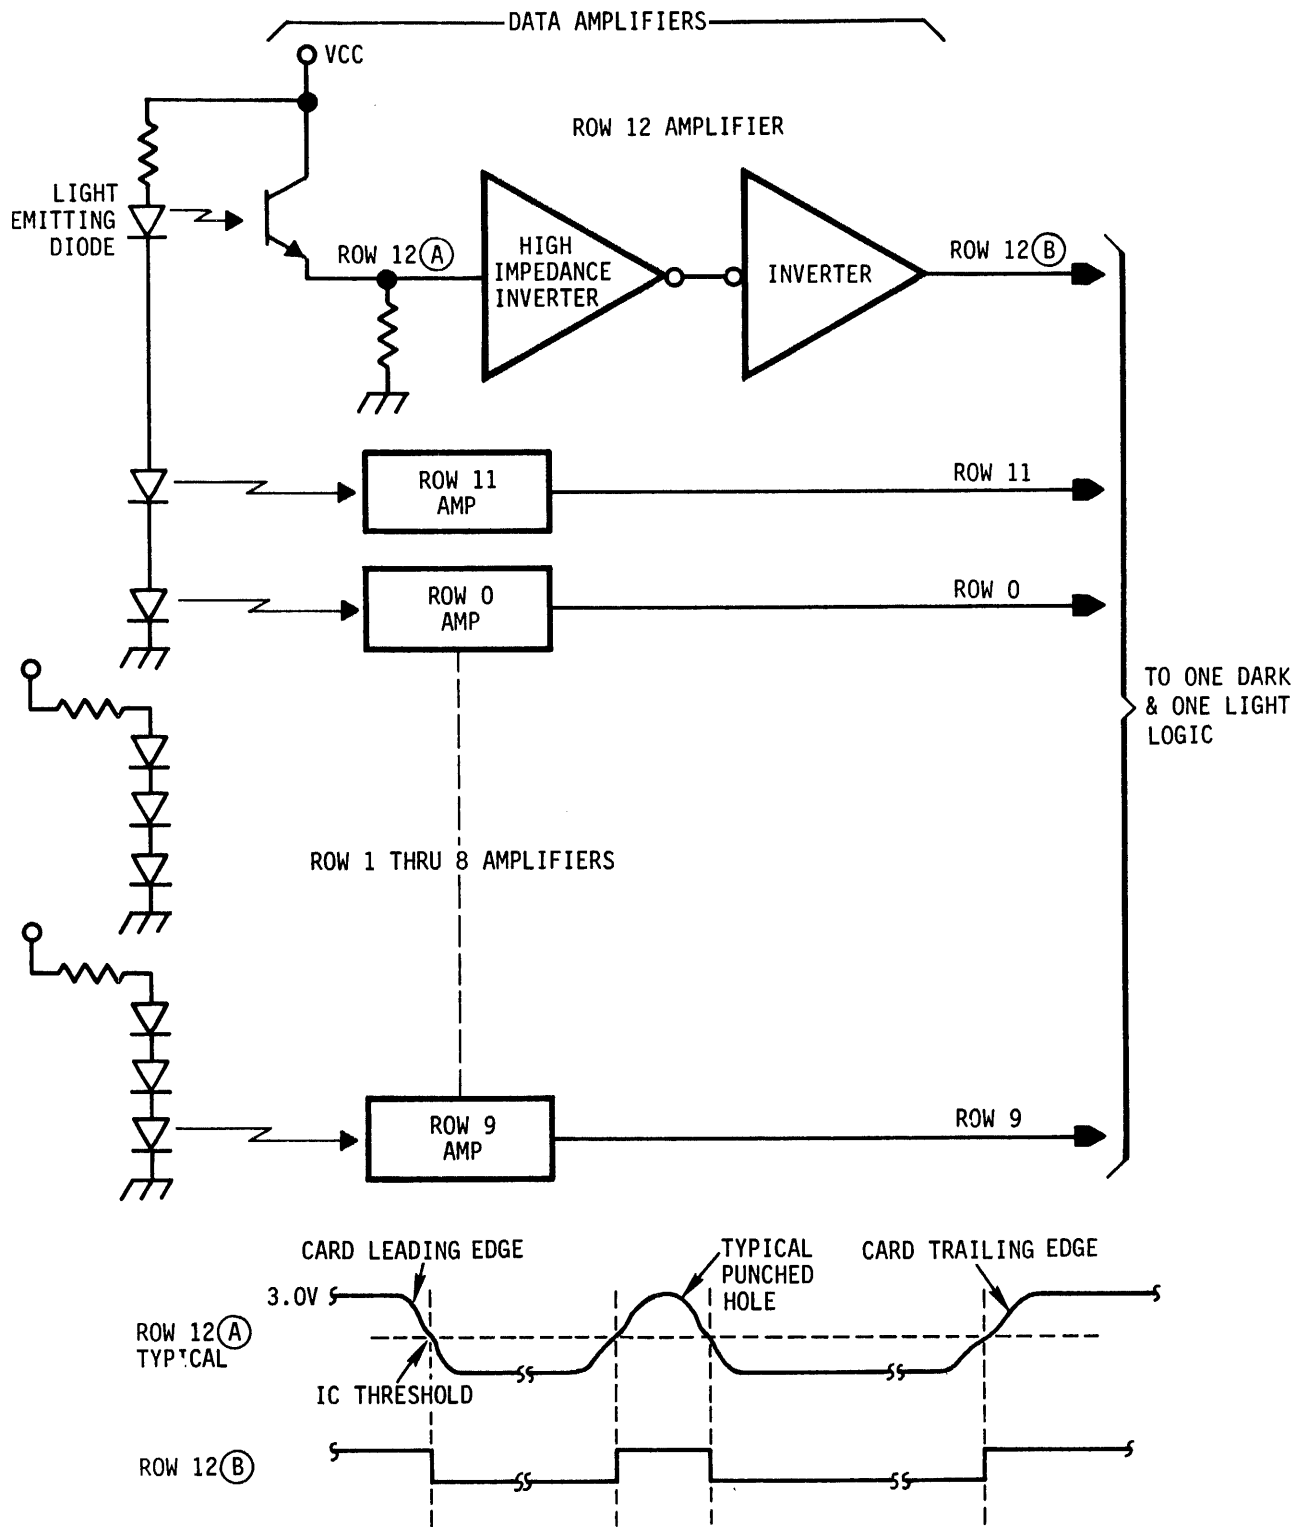

Figure 4-9. Block and Timing Diagram, Data Amplifiers and Inverters
The Light Station contains one infrared Light Emitting Diode (LED) and the Read Station one Phototransistor for each of the 12 punched card rows. Light emitted by the LEDs is allowed to pass to the Phototransistors by the presence of punched holes in the tab card. Figure 4-9 presents a block diagram and typical waveform for the Data Amplifiers and Inverters. Light reaching the Phototransistor (PT) is amplified by the PT and converted into an electrical signal at its' emitter. A typical PT's emitter waveform is ROW 12 (A). As the leading edge of the card passes over the PT lens, the received light is reduced causing a reduction in the PT's output voltage. The emitter of the PT is coupled to pull down resistor R and the input of a high impedance TTL inverter. When the PT's emitter voltage drops through the switching threshold of the inverter (nominally 1.4 volts) the inverter changes states. The High Impedance Inverters output is amplified by the Inverter and then used to drive the One Light and One Dark Logic. As can be seen from the waveforms each time the High Impedance Inverters threshold is crossed the device switches states driving the inverter to produce waveform ROW 12(B).